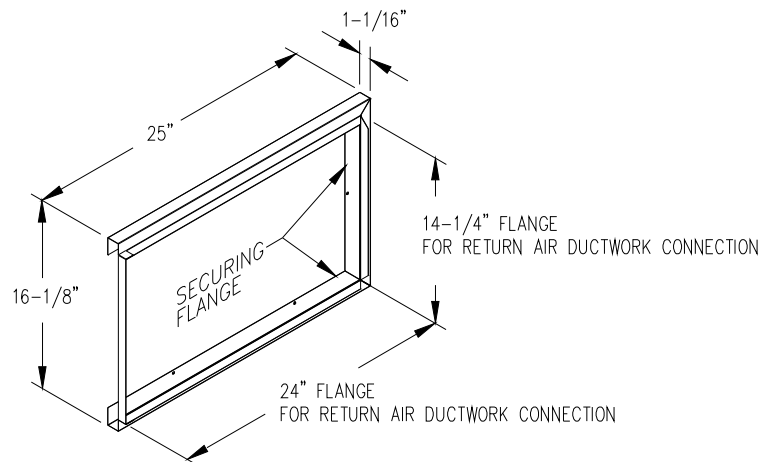

Fig. 2: A typical filter rack and dimensions for the VHF-A furnace.**
The filter rack provided with the furnace, refer to Fig. 2, will serve as a template to scribe a mark for the return air opening on the casing. Place the filter rack on a side casing approximately one inch up from the bottom of the furnace and centered from side to side. Place the securing flange against the casing when locating the return air opening. For your convenience, (4) locator knock-outs have been placed at the proper locations on both the left and right side casings.
Connect the return air plenum to the filter rack and slide the filter into place. Dimensions for adapting the return air plenum to the filter rack are provided (See Fig. 2).